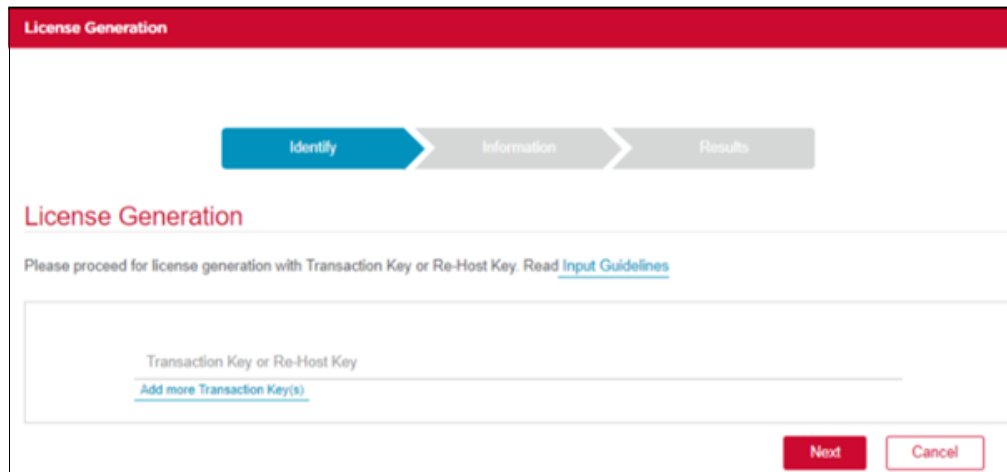

Figure 11-43 License Generation window
4. Enter the licensing transaction key or rehost key in the License Generation window and click **Next** (see Figure 11-43).